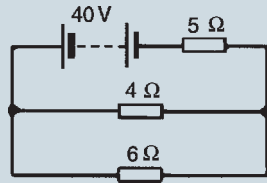

Figure 15.14
4. Use Kirchhoff's laws to find the current flowing in the 6Ω resistor of Fig. 15.14 and the power dissipated in the 4Ω resistor.